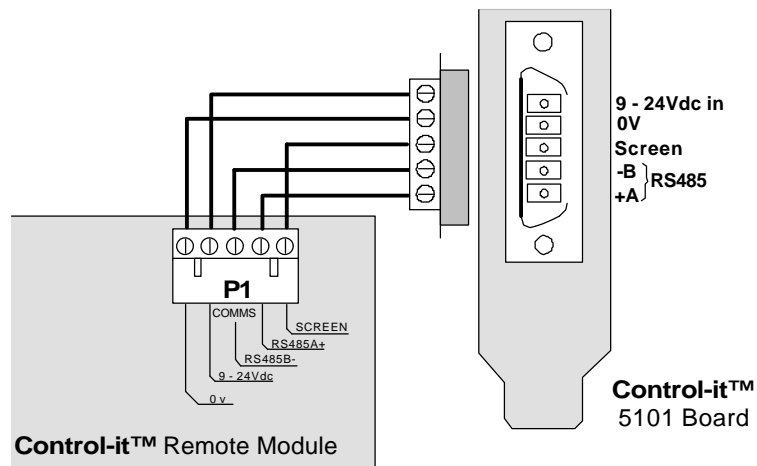

Figure 6 - RS485 connection to the 5101 PCI board.
2. Connect the module to the RS485 interface board as per figure 6. (For more, refer to page 18.)